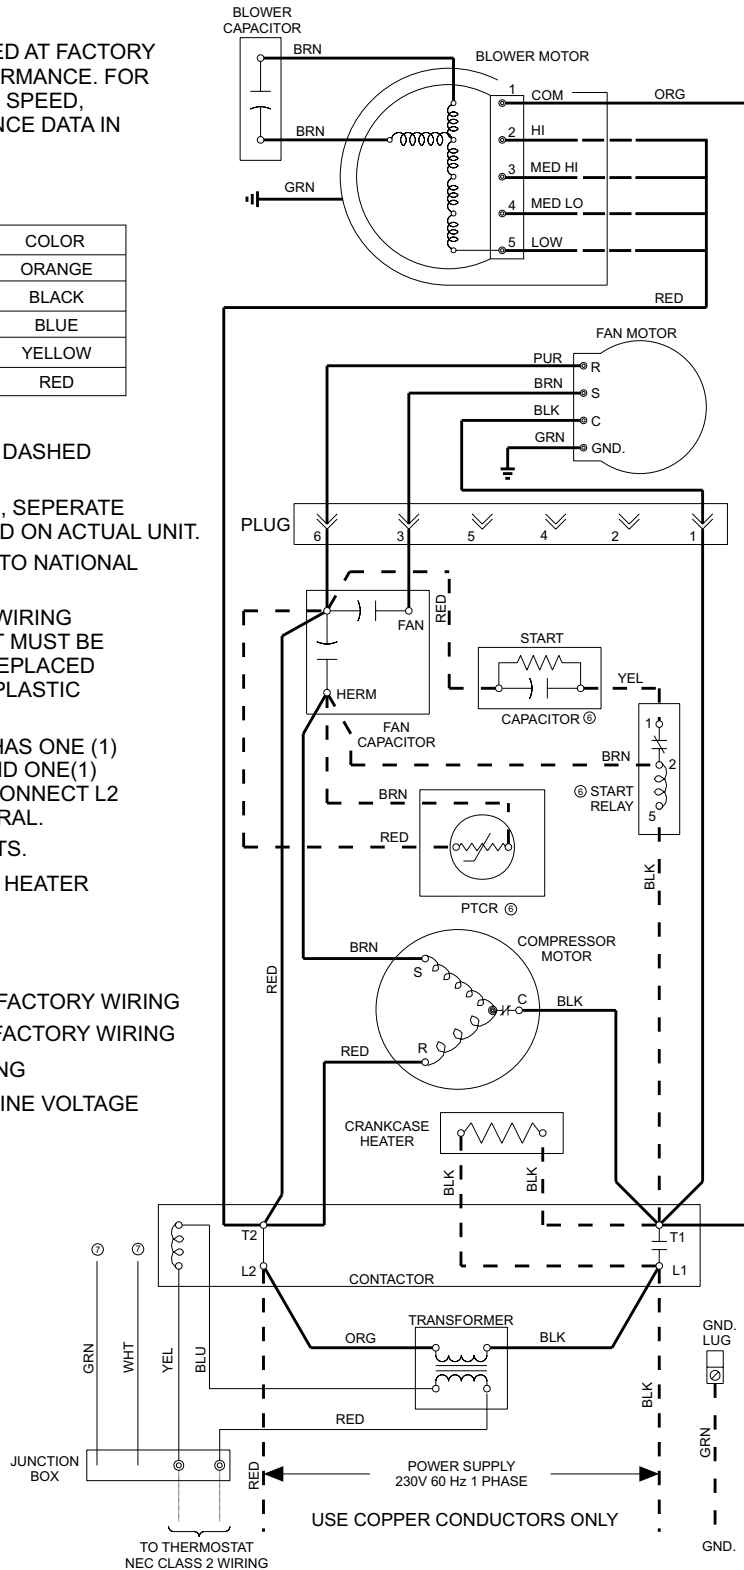

FIGURE 6
4. Attach the brown lead wire from the starting kit relay #2 to the same terminal on the run capacitor that was located in Step 3. See Figure 6.
NOTE: The wiring of the capacitor and relay must agree with Figure 6. Also, see diagram on control box cover.